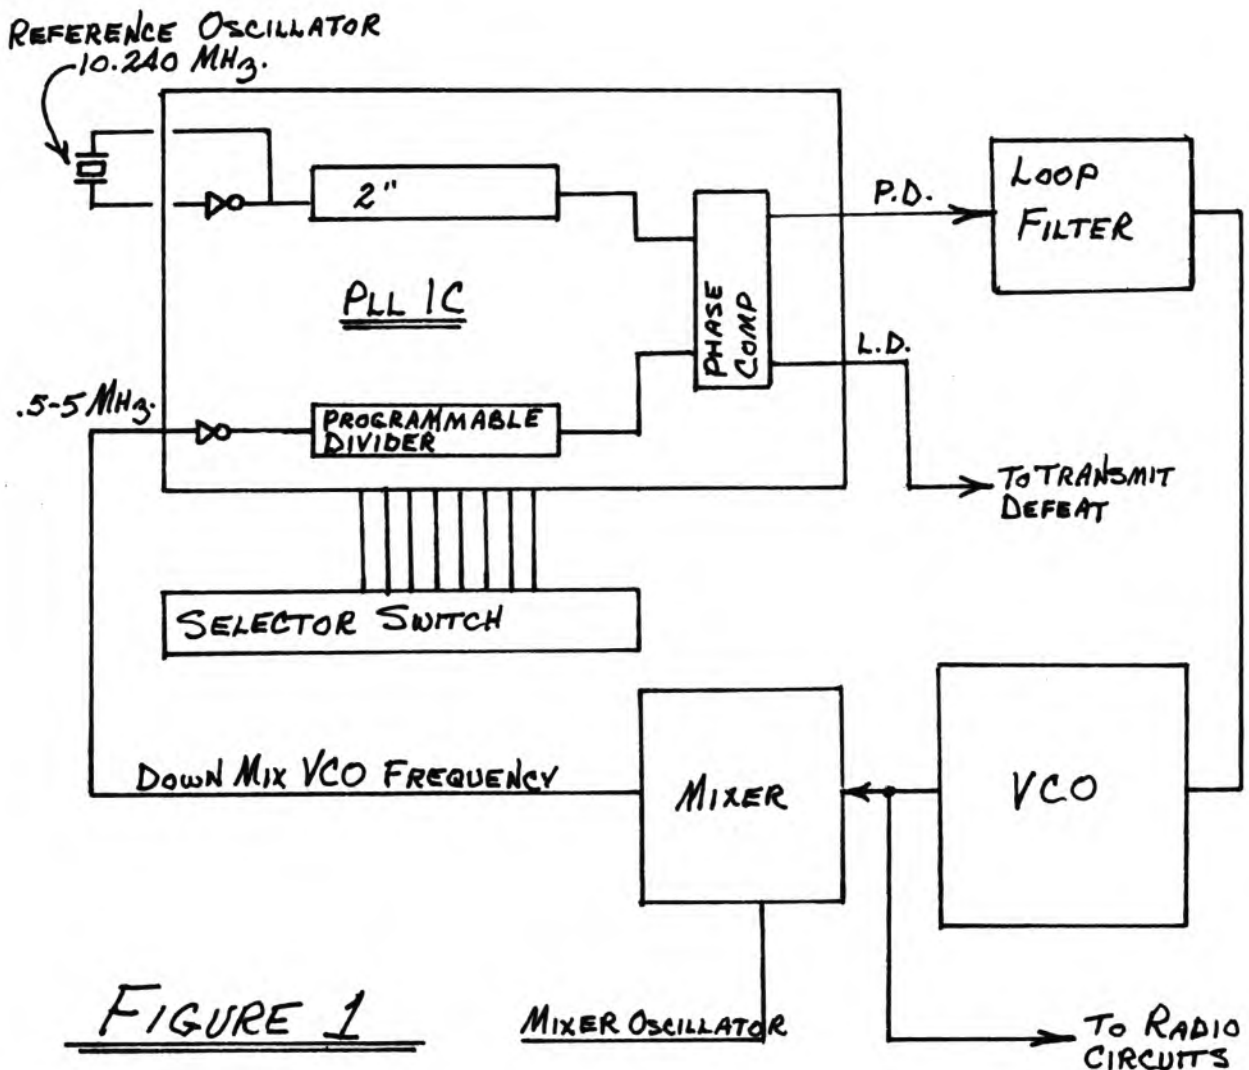
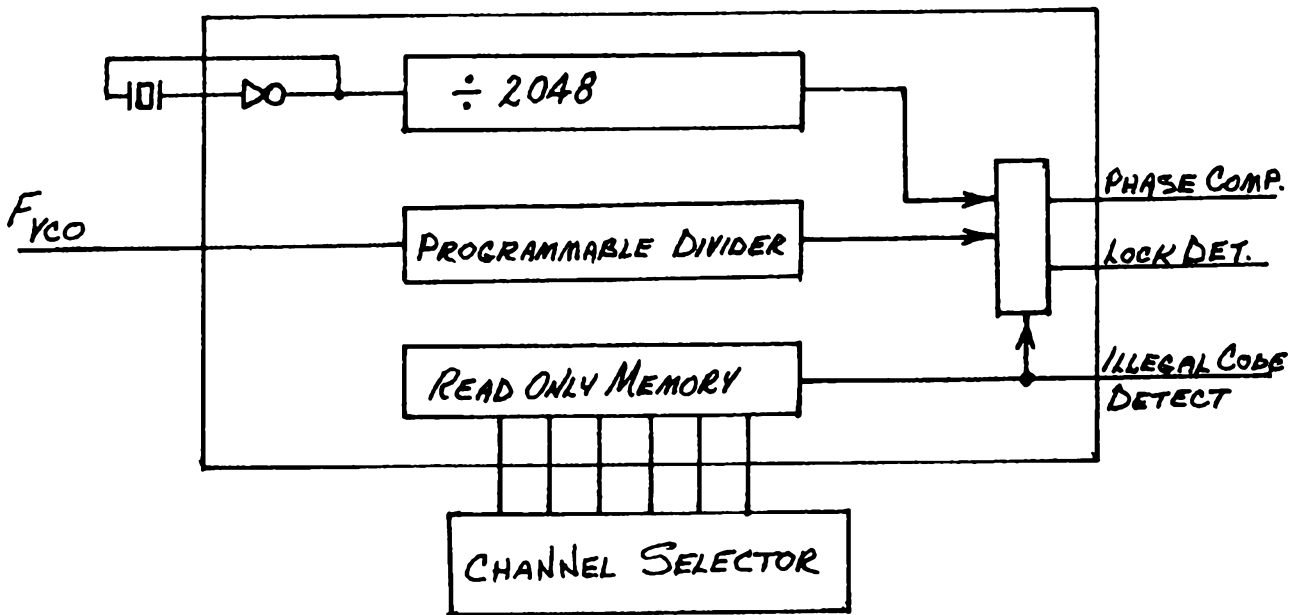

FIGURE 1
FIGURE 2
Volume V introduced a new product, the Micromonitor, to be used to expand a variety of CB Radios to the 10 Meter band. The Micromonitor System represents a new concept in adaptations and is not yet well understood in the industry. Figure 1 illustrates the basic block diagram of the common phase locked loop type circuits which are found in CB radios today.
The circuit shown in figure 1 shows several distinct areas used in these PLL circuits. The essence of the circuit is the PLL IC. This device contains two counters and a digital phase detector. The first counter simply divides the reference oscillator by 2048 to yield 5KHz as the reference frequency input to the phase comparator. The second counter is programmable from external pins and can be programmed to divide by any number between zero and 256. When the outputs of each of these counters occur simultaneously, the PLL is considered to be locked. How-
When the latest style CB radios were introduced, the PLL IC's used deviate from that shown in figure 1. The latest chips employ a ROM (read only memory) between the selector switch inputs and the programmable divider as shown in Figure 2.
9. Cut trace connected to base of TR12. (see Fig. 2)